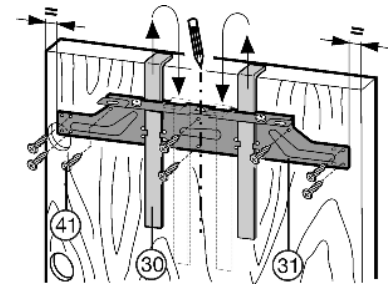

Fig. 23
- ▶ Unscrew the crosspiece Fig. 23 (31) by undoing the locknuts Fig. 23 (32).
- ▶ Hang the crosspiece Fig. 23 (31) on the inside of the unit door using the fitting aids Fig. 23 (30).
- ▶ To center the crosspiece Fig. 23 (31): Mark a short center line on the unit door and place the tip of the arrow on the crosspiece over it.
- ▶ To align the crosspiece Fig. 23 (31): Mark a short center line on the unit door and place the tip of the arrow on the crosspiece over it. Now shift the crosspiece Fig. 23 (31) 3/16 in. (5.5 mm) towards the hinge side.
- ▶ Fasten the crosspiece Fig. 23 (31) with at least 6 screws Fig. 23 (41).
- ▶ Fasten the crosspiece Fig. 23 (31) with 4 screws Fig. 23 (41) at the edge.
- ▶ Lift up the fitting aids Fig. 23 (30), turn them around, and insert them into the adjacent openings.